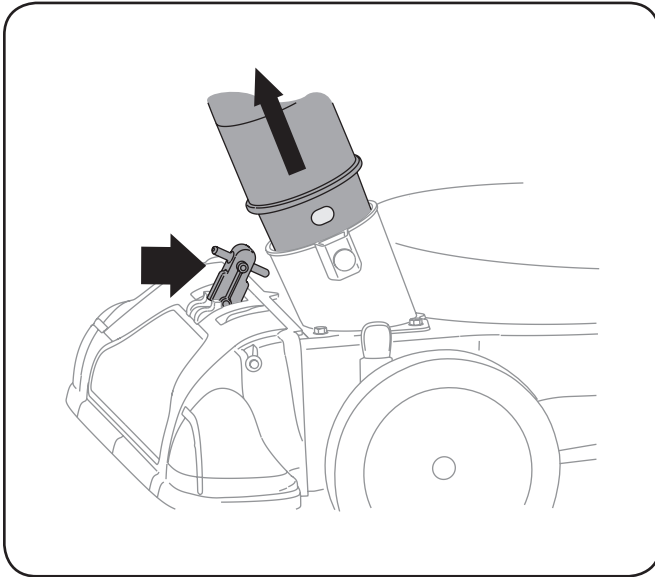

Figure 5-3
1. Place nozzle/hose vac lever in the top position on the nozzle to vacuum through nozzle. See Figure 5-3.
2. The spring loaded pin must be in the first hole (closest to the end of the tube) of the hose adapter to operate the nozzle vac. See Figure 5-3.